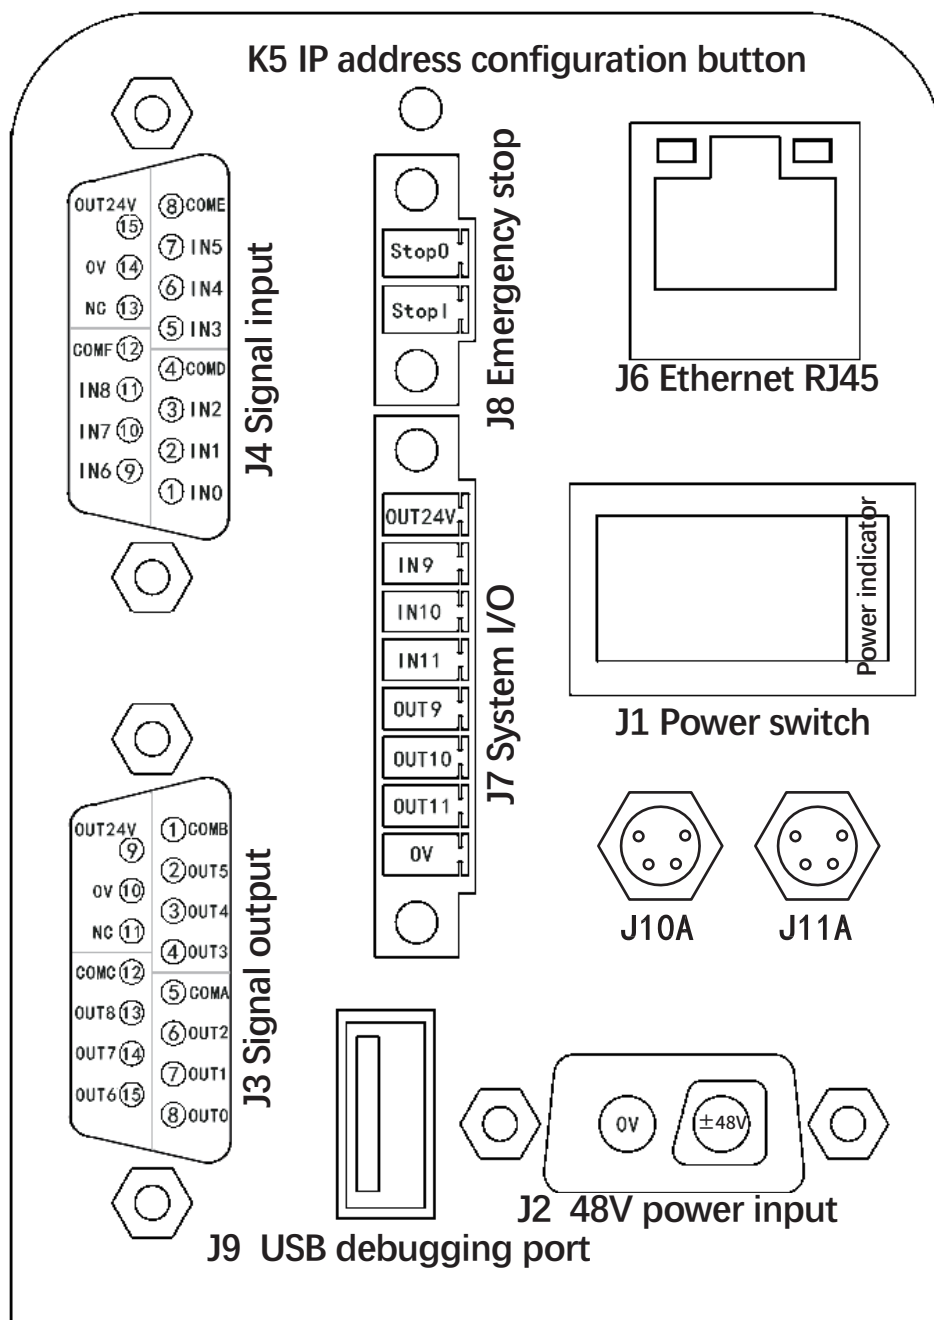

Figure 1
Figure 1: Dimensions of the robot arm. The diagram shows a side view of a robotic arm with various dimensions and labels. The total height is 860. The base width is 275. The distance from the base to the first joint is 325. The distance from the first joint to the end effector is 225. The end effector has a width of 82 ± 1. The base has a width of 492. The base is labeled with 'USB port', 'Power supply', 'I/O port', 'Straight line port', 'Switch', 'Ethernet cable port', and 'Emergency stop port'. The end effector has two 'DB15' ports.
1. General schematic diagram of the base interface at A (as shown in Figure 1)
2. Figure 1 interface definition description